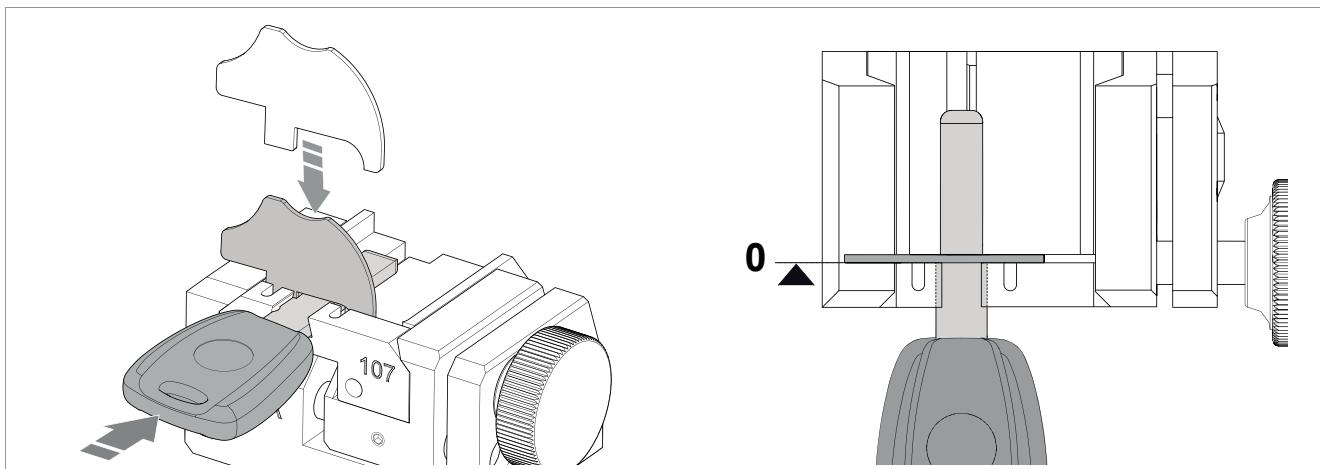
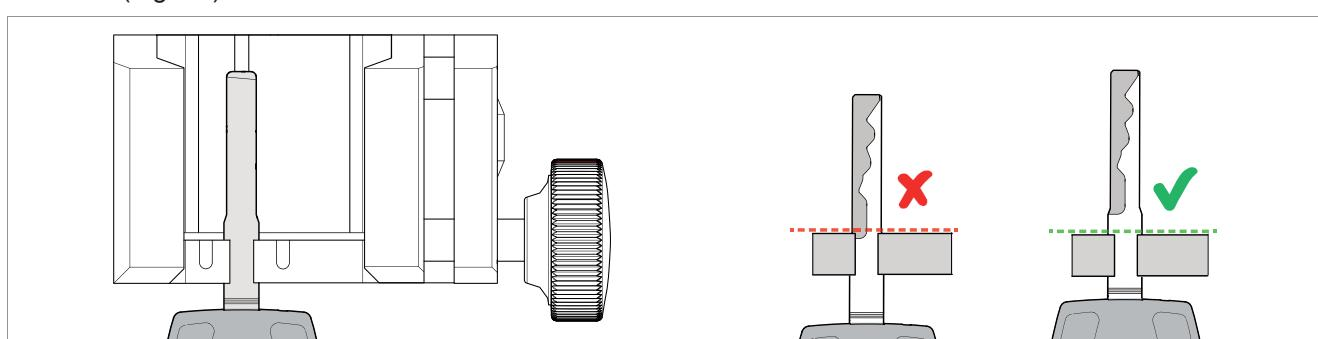

Fig. 33 - KEYS WITH STOPS
Fig. 38 - KEYS WITH TIP REFERENCE
- **clamp stop (Fig. 33 and Fig. 38)**
Position the key with the stops up against the special stop bar (Stop “0”) (Fig. 33).
- 2) Insert the key to be cut, making sure it sits flat on the surface, and take the stop up against the bar (Fig. 33).
- 3) Tighten the knob (M) to secure the key.
Position the key as wished, bearing in mind that cutting (existing or to be done) must begin beyond the locking line/zone (Fig. 38).